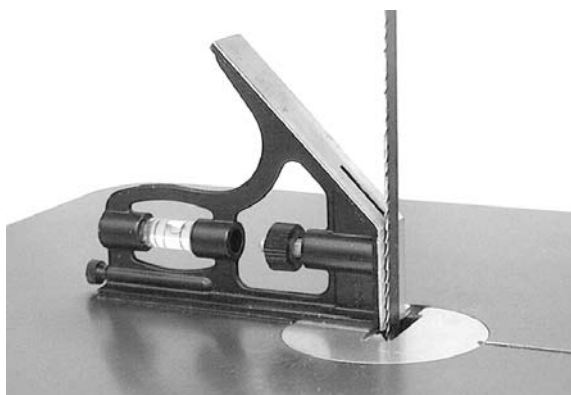

Figure 15
3. Use a square placed on the table and against the blade (Figure 15) to see if the table is 90 degrees to the blade.